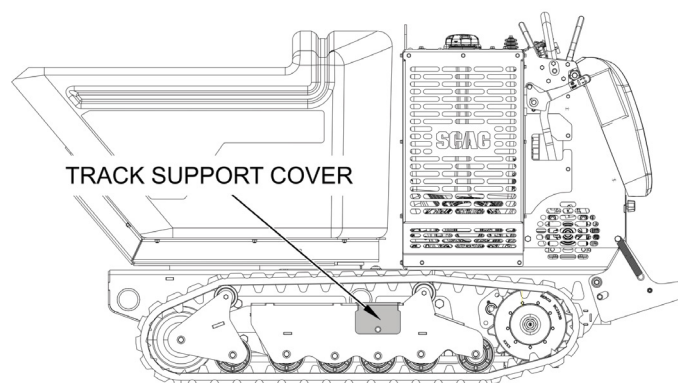

Figure 5-6. Track Support Cover
1. Remove the bolts on the track support cover and remove the cover. See Figure 5-6.